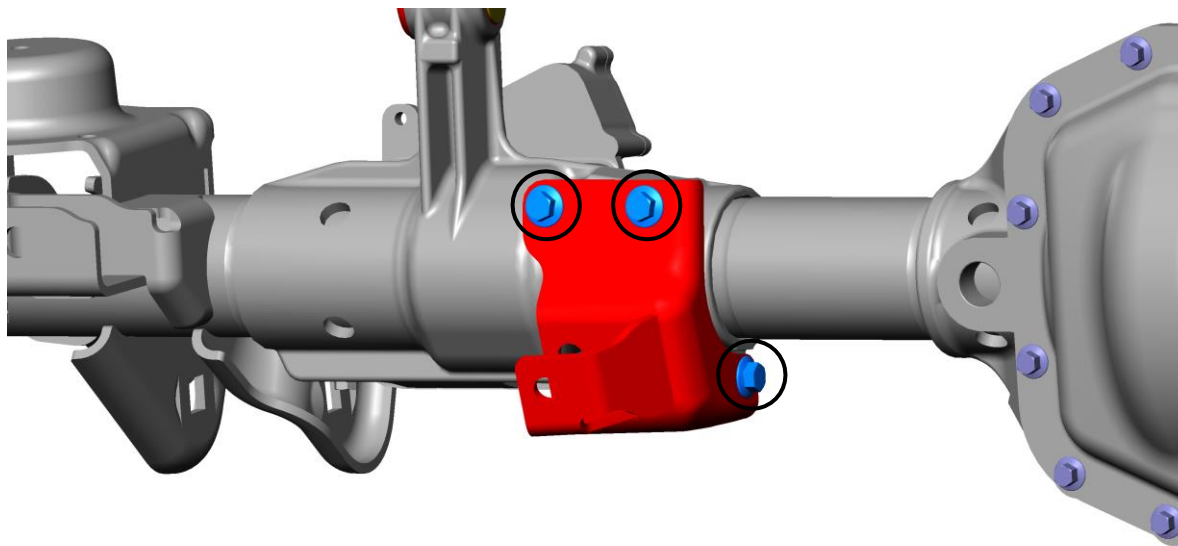

Figure 2: Factory axle-side steering stabilizer mount to be removed
2. Remove the factory axle-side steering stabilizer mount. Use a 13mm socket to remove the (3) bolts highlighted in Figure 2. As stated previously in these instructions, relocation of the steering stabilizer is necessary to complete this installation. Keep all factory hardware unless noted otherwise.